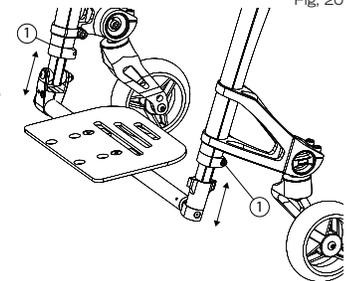

Fig. 20
- Loosen screw (1) (Fig. 20).
- Tighten screw (1) firmly.